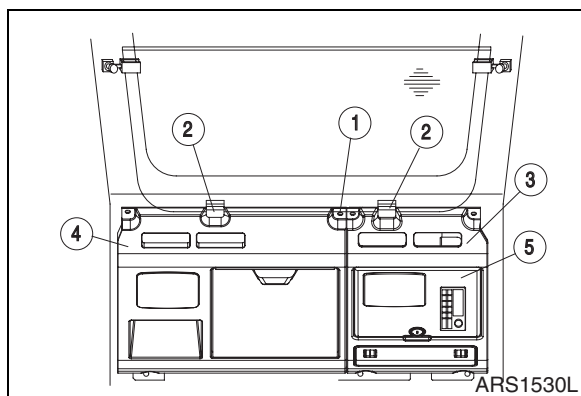
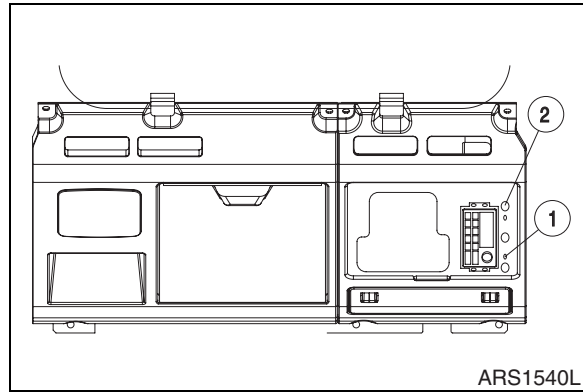

Figure 4
Figure 5
18. Remove cover (5, Figure 4) on left side dash cover (3) and bolts (1, Figure 5).
19. Remove two rubber stops (2, Figure 4) used in storing the front lower glass. Remove bolts (1) from the rear left and right dash covers. Remove left side cover (3).
20. Lift right side dash cover (4, Figure 4) and disconnect speaker wire. Remove cover.
21. Remove three bolts (2, Figure 5) after disconnecting the speaker and antenna wires. Remove stereo assembly.